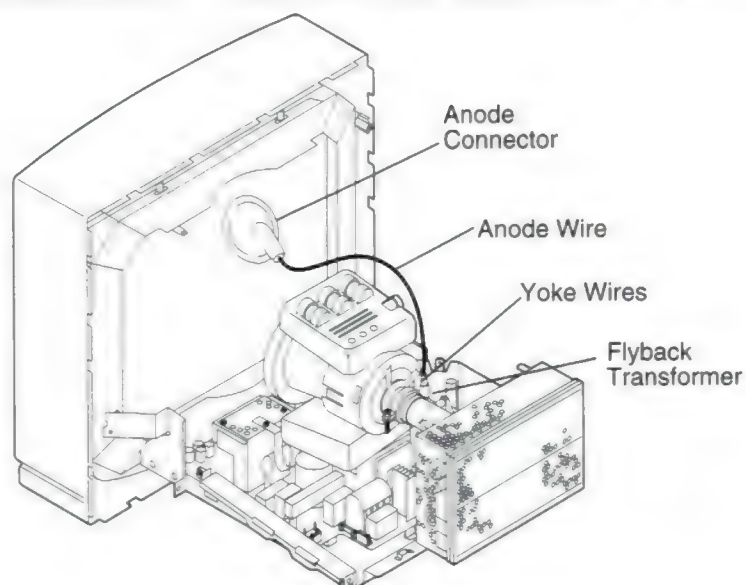

Figure 9. Apple Multiple Scan 17 Video Adjustments
1. Press the right side (up arrow) of the button (see Figure 9) to increase the brightness.
2. Press the left side (down arrow) of the button (see Figure 9) to decrease the brightness.
1. Press the left side of the button (see Figure 9) to decrease the contrast.
1. Press the select button (marked with "⌘") to turn on the centering indicator light (see Figure 9).
2. Press the up or down button on the brightness controls (see Figure 9) to move the center of the picture up or down.
2. Press the left or right button on the contrast controls (see Figure 9) to move the center of the picture left or right.
1. Press the select button (marked with “⌘”) repeatedly until the size indicator light (see Figure 9) goes on.
2. Press the up or down button on the brightness controls (see Figure 9) to increase or decrease the size of the picture.
2. Press the left or right button on the contrast controls (see Figure 9) to decrease or increase the size of the picture.
1. Press the select button (marked with “⌘”) repeatedly until the rotation indicator light goes on (see Figure 9).
2. Press the up button on the brightness controls (see Figure 9) to tilt the picture clockwise.
3. Press the down button on the brightness controls (see Figure 9) to tilt the picture counterclockwise.
2. Press the left button on the contrast controls (see Figure 9) to bring in the sides of the picture.
3. Press the right button on the contrast controls (see Figure 9) to expand the sides of the picture.
1. Press the select button (marked with "⌘") repeatedly until the convergence indicator light goes on (see Figure 9).
3. Press the down button on the brightness controls (see Figure 9) to move the red signal down and the blue signal up.
3. Press the right button on the contrast controls (see Figure 9) to move the red signal to the right and the blue signal to the left.
1. Press the select button (marked with "⌘") repeatedly until the color temperature indicator light (see Figure 9) goes on.
2. Press the left button on the contrast controls (see Figure 9) to decrease the color temperature.
3. Press the right button on the contrast controls (see Figure 9) to increase the color temperature.
Use a straightened paper clip to push in the reset button (see Figure 9).
1. Press the select button (marked with an "⌘") repeatedly until the indicator light of the picture control you want to reset (vertical or horizontal center, convergence, or color temperature) goes on (see Figure 9).
2. Use a straightened paper clip to push in the Reset button (see Figure 9).
While holding down the control button, push in the Reset button with a straightened paper clip (see Figure 9).